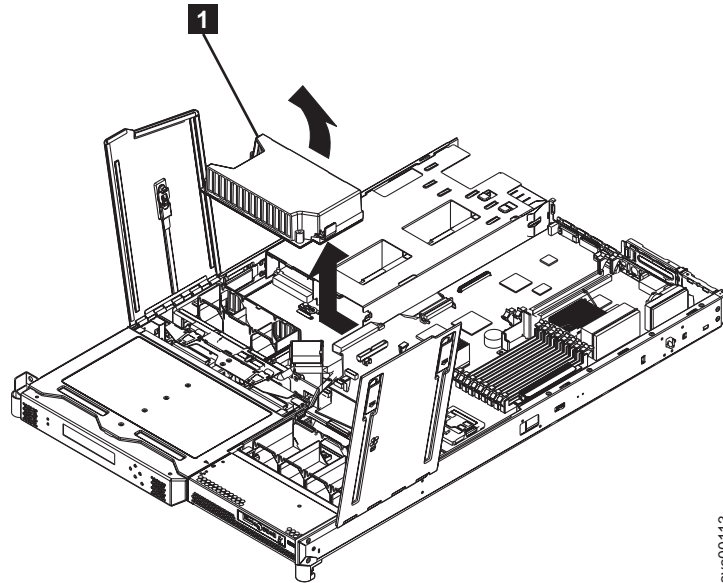

Figure 167. SAN Volume Controller 2145-8F4 or SAN Volume Controller 2145-8F2 power backplane
7. Slide the power backplane to the left, as shown in Figure 167, and disconnect it from the system board.